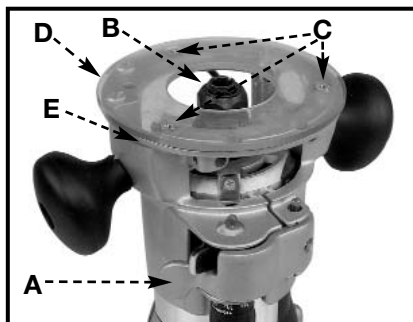

Fig. 4
Applications using a templet guide require the bit to be centered in the guide. This, in turn, requires the center hole in the sub-base to be in line with the collet of the motor unit. Your model has an adjustable sub-base which has been aligned at the factory. The fixed-base router comes with the large hole (Fig. 4). To use templet guides, use an accessory base, and/or, if the sub-base has been removed and readjustment is required, use the following procedure.
1. Loosen the sub-base mounting screws (C) Fig. 4 just enough to allow the sub-base (D) to move.
2. Open the clamp (A) Fig. 4, and adjust the power unit so that the collet nut (B) engages the center hole in the sub-base (D). Allow the sub-base to center itself on the collet nut. Close the clamp (A).
3. Tighten the sub-base mounting screws (C) Fig. 4 securely.